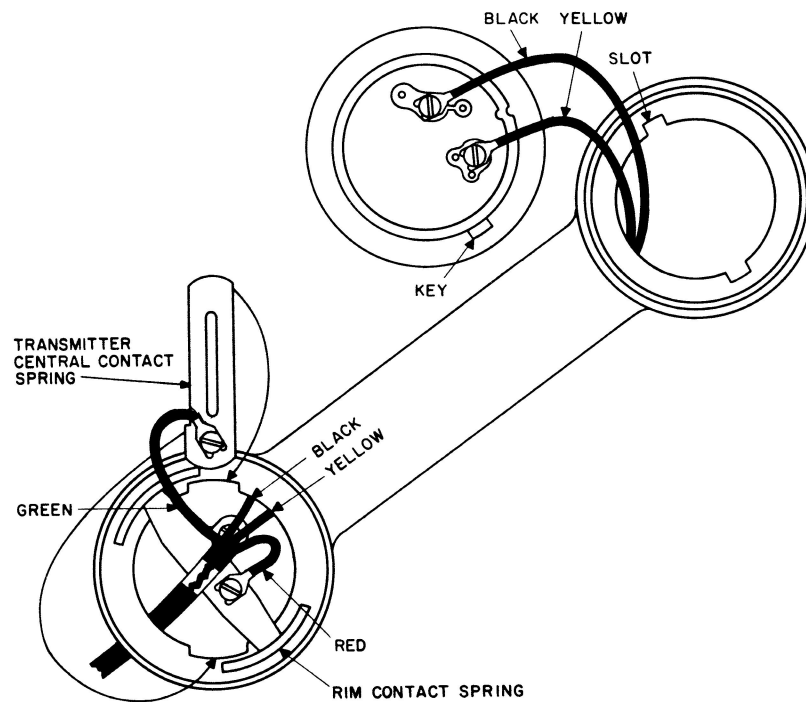

Figure 12. Type 810 handset.
3.5 A type 810 handset is used with the Type 880 Speakerphone. Piece numbers for the 810 receiver and transmitter capsules are D-51024-A and D-38379-A, respectively. Figure 12 shows the components of the type 810 handset.
Remove the old cord from the handset and connect the new cord as shown in figure 12.